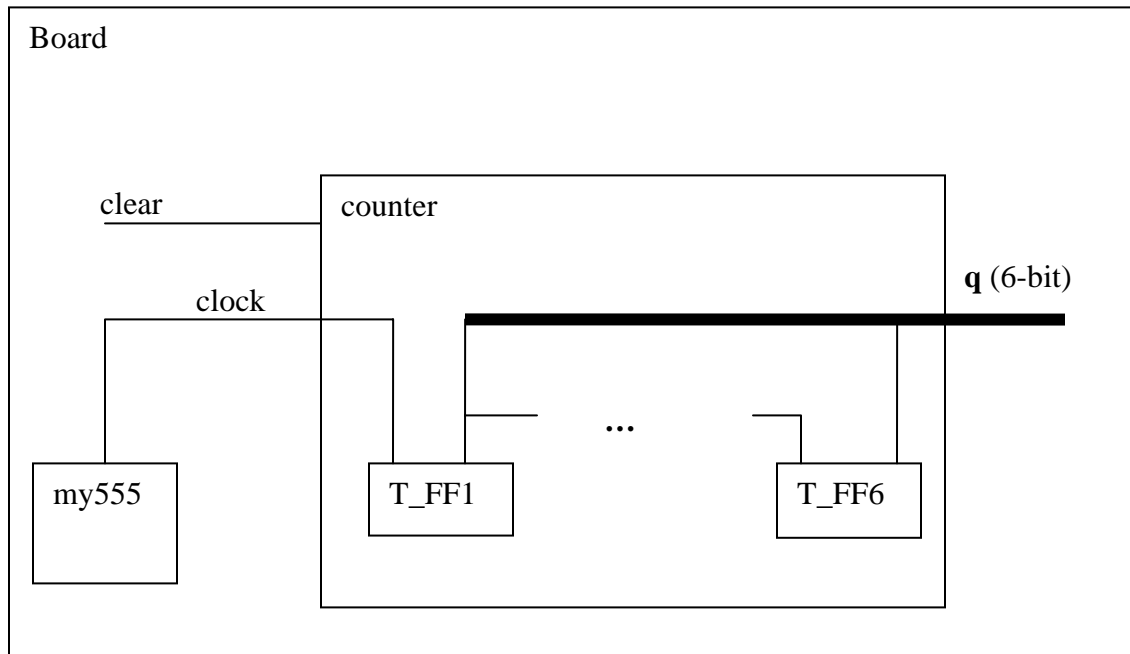

Fig. 2.4 The complete Counter for testing
5. To test the counter, you need to tie all components together to complete the design as shown in Fig. 2.4. A testbench called “Board” is required. The stimulus should check all 64 status of the counter. Note that the clear signal resets the count to zero. The simulation results should display the time stamp, the output “clear”, and q[0] to q[5].